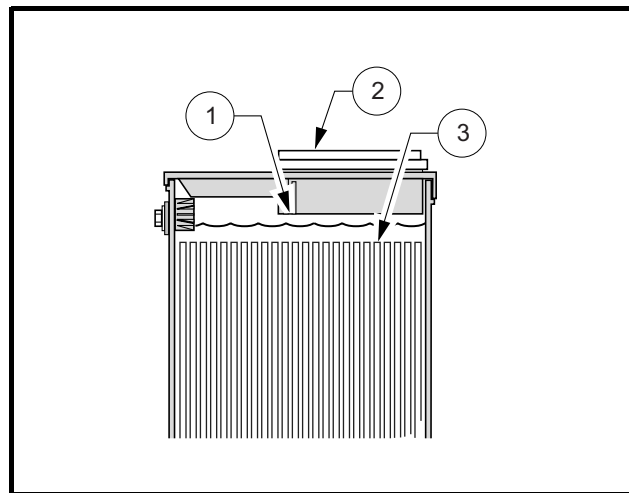

Figure 12-4 Battery Electrolyte Level
1. Be sure that the battery has sufficient water to cover the plates by approximately 1/2 inch (12.7 mm) and is fully charged prior to beginning the test. If water must be added, recharge the battery before performing the hydrometer test (**Figure 12-4, Page 12-10**).